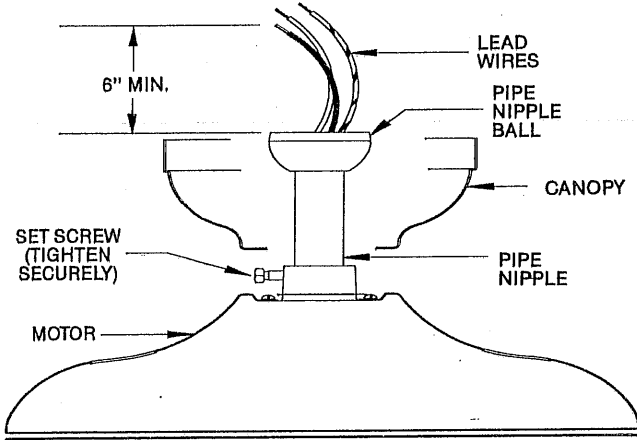

Figure 5B
A. Insert pipe nipple through canopy and feed wires from top of motor through pipe nipple. Screw pipe nipple into fan until tight (at least 4 1/2 turns). The setscrew locking the pipe nipple to motor must be tightened very securely. See Figure 5B. Failure to tighten screw could result in fan failing.